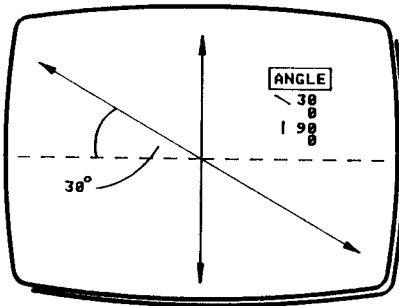

Fig 4
- 3 The cursor returns to the locked axes, which are now at 30 and 90 degrees as in Fig 4.